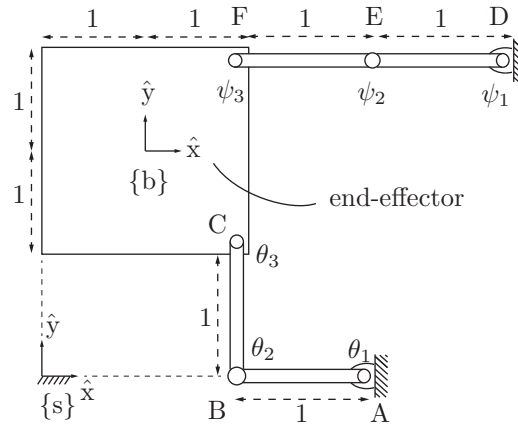

Figure 7.13: A six-bar-linkage.
Exercise 7.4 Figure 7.13 shows a six-bar linkage in its zero position. Let (p_x, p_y) be the position of the $\{b\}$ -frame origin expressed in $\{s\}$ -frame coordinates,
- Assume that joints A, D, and E are actuated. Determine whether the configuration shown in Figure 7.13 is an actuator singularity by analyzing an equation of the form